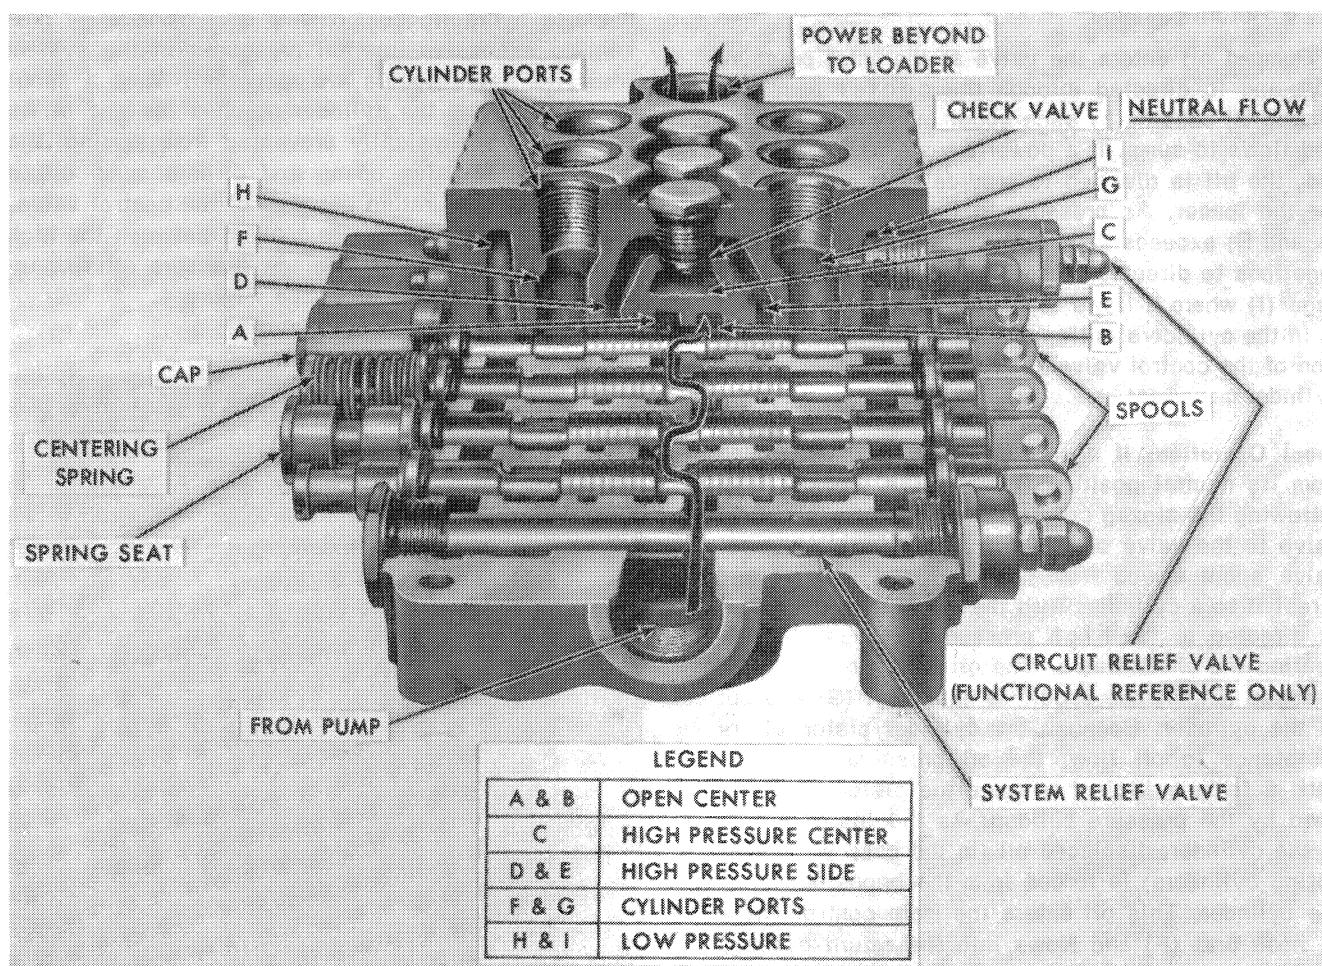
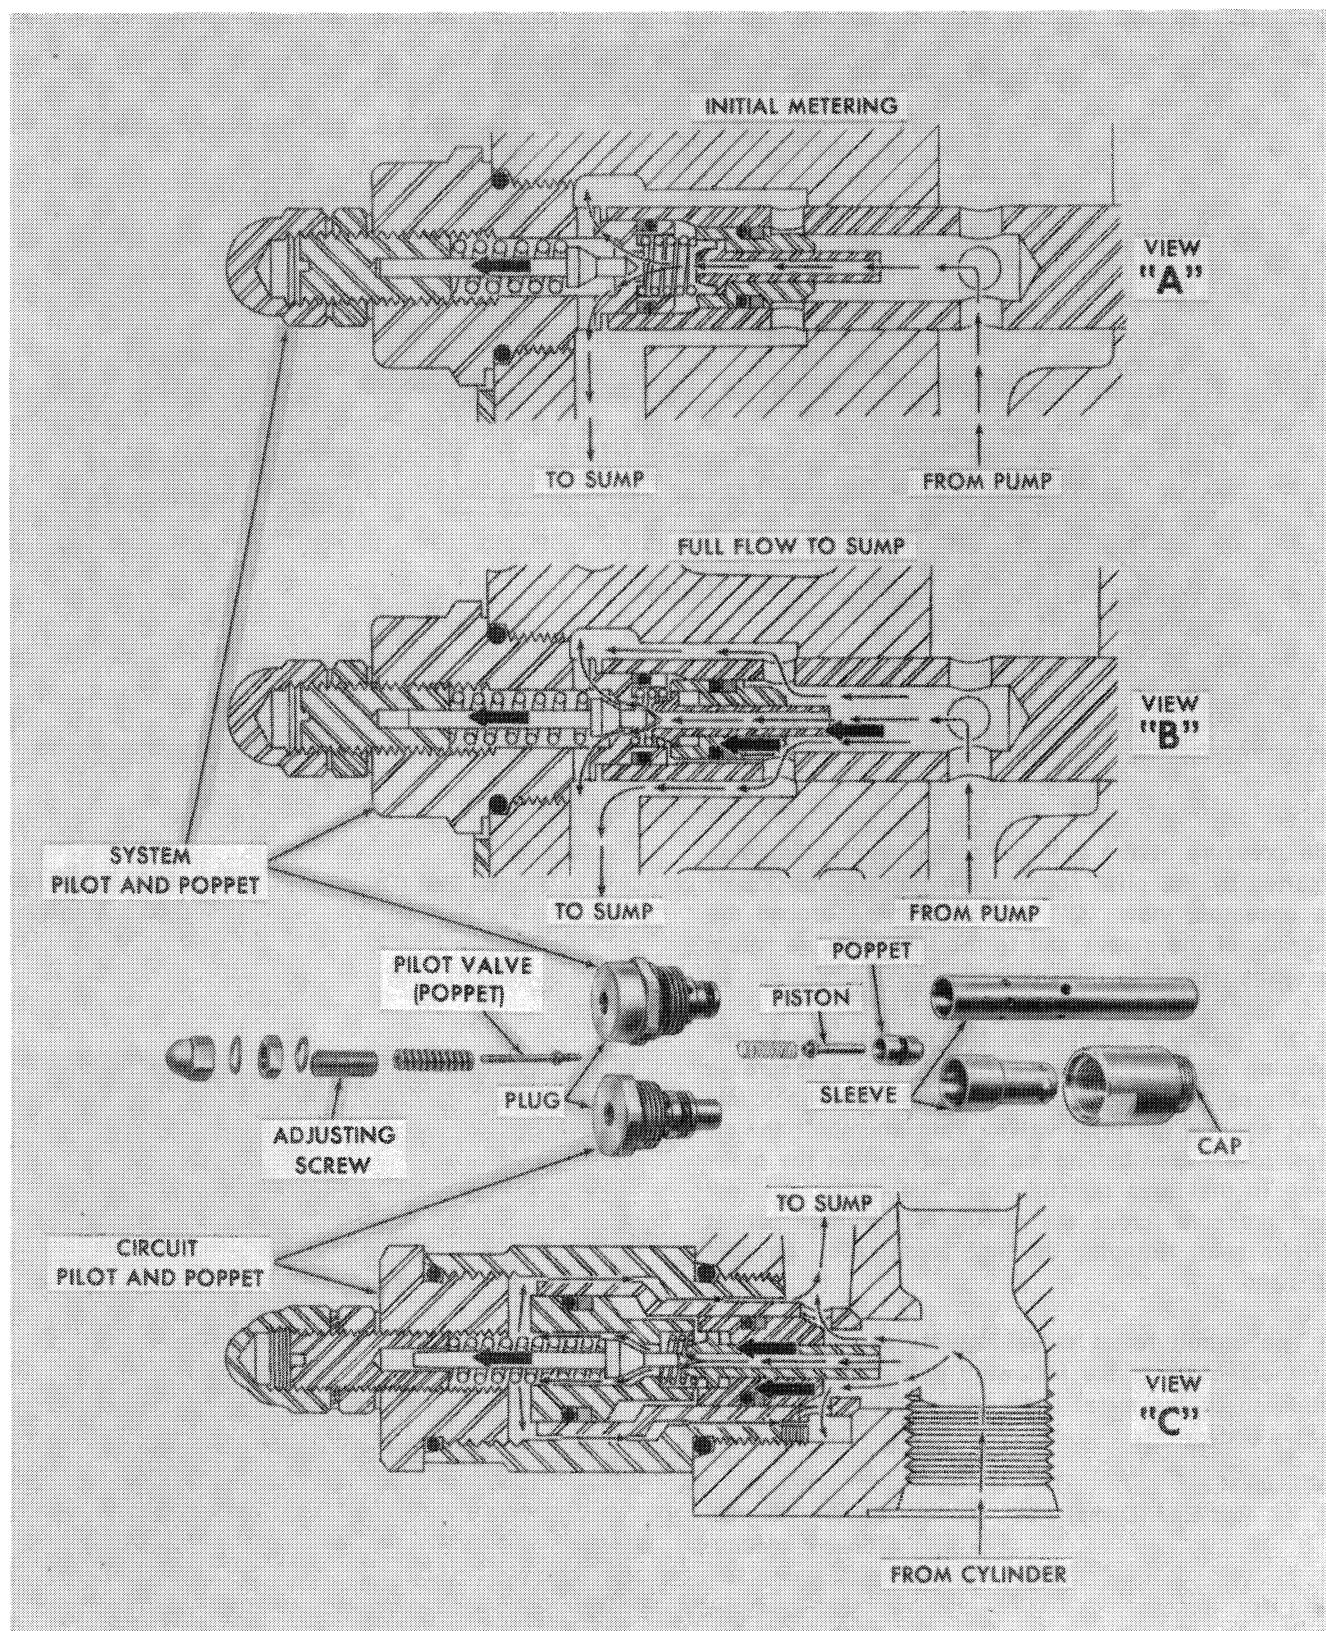

Figure 4
Figure 7
**Neutral Flow:** Figure 4 represents a cutaway view of the main control valve illustrating:
**System Relief Valves:** The system relief valves, Figure 7, in the main control valve serve to protect the backhoe hydraulic components from damage by preventing excessive internal pressures in the system when the valve spools are activated. When a spool is actuated and the cylinder reaches the end of its stroke, or is physically prevented from moving, the system relief valve opens and directs pump oil to the low pressure return passage of the control valve. The system relief valve is located between the high pressure inlet port and the low pressure return passage of the control valve. See Figure 4.
**Circuit Relief Valves:** Circuit relief valves, view "C", Figure 7, are used in the lift, crowd, and bracket circuits. These circuits are subjected to externally-caused high pressures during normal backhoe operation. Relief valves are used at both ends of the lift circuit, the piston end of the crowd circuit, and the rod end of the bucket circuit. The circuit relief valves limit the pressure which is allowed to build in these circuits during backhoe operation. The valves are positioned between the cylinder port and the return passage in the control valve. High pressure cylinder oil enters the relief valve through the end of the hollow piston. This oil acts against the pilot valve and the inner side of the poppet. When